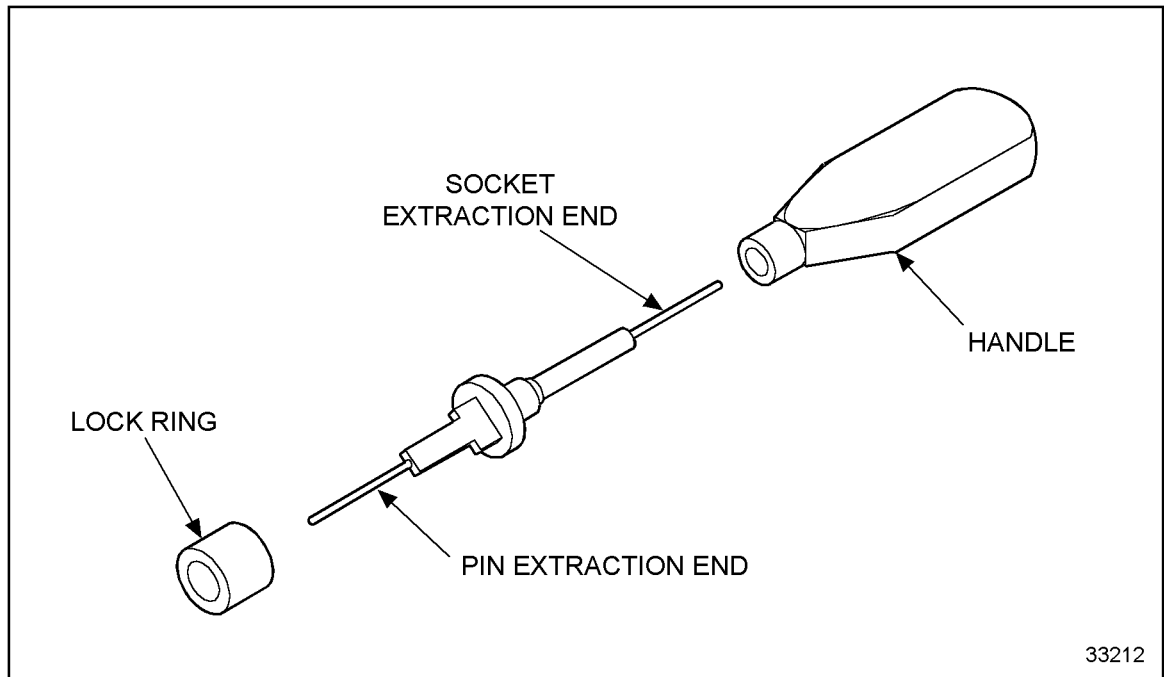

Figure 8-28 **Extraction Tool**
2. Use extraction tool, ITT Canon P/N: CET-F80-16; see Figure 8-28.